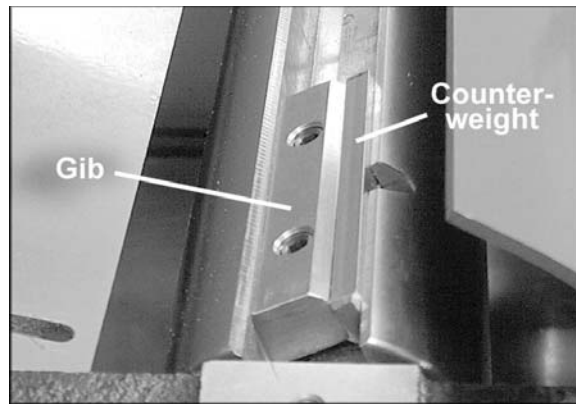

Figure 30
4. Install one steel gib and the steel counterweight in the second slot. Tighten the gib set screws. (The steel gib and counterweight are ground to balance the cutterhead.) See Figure 30.